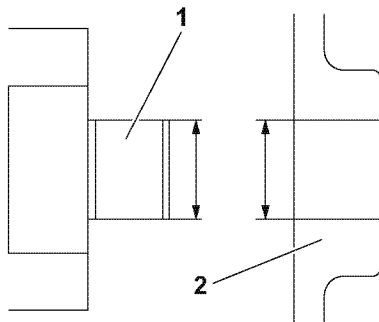

Figure 9-19
Inspect the rotor shaft clearance. Measure the outside diameter of the rotor shaft (Figure 9-19, (1)) and the inside diameter of the cover.